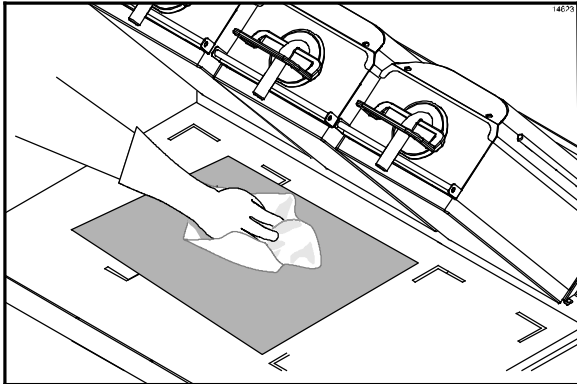

Figure 67
39. One at a time, place the upper and lower release sheets on the lower grill surface. Wipe both sides of each release sheet with a clean, sanitizer-soaked grill cloth. (See Figure 67.)